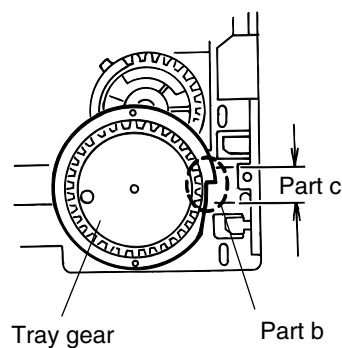

Fig. 4
- Turn the idle gear so that the part b of the tray gear is positioned in the part c shown in Fig. 4. (Eject position)